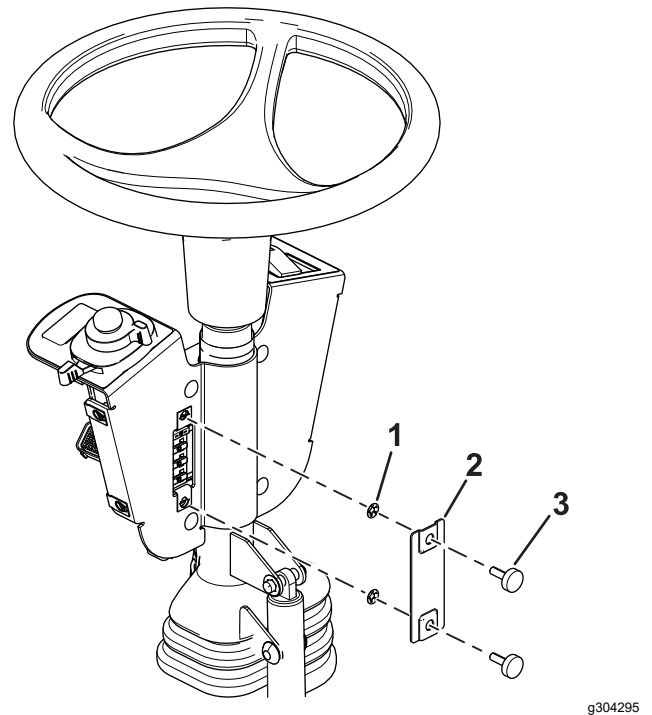

Figure 9
- 11. Install the fuse cover to the switch mount using 2 thumb screws and 2 push nuts (Figure 9).
Note: Ensure that the push nuts are installed on the inside of the fuse cover (Figure 9).